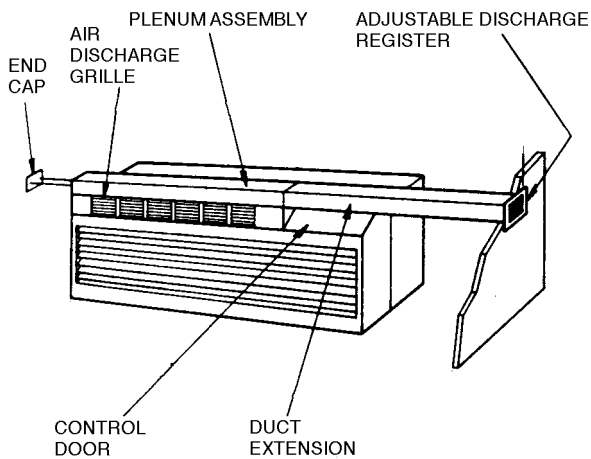

FIGURE 10 — WALL SLEEVE, DUCT ADAPTER, AND EXTENSION LOCATION (RIGHT-HAND EXTENSION)
1. Remove the lateral duct adapter end cap, shown in Figure 10, by removing the two 1/2-in. screws